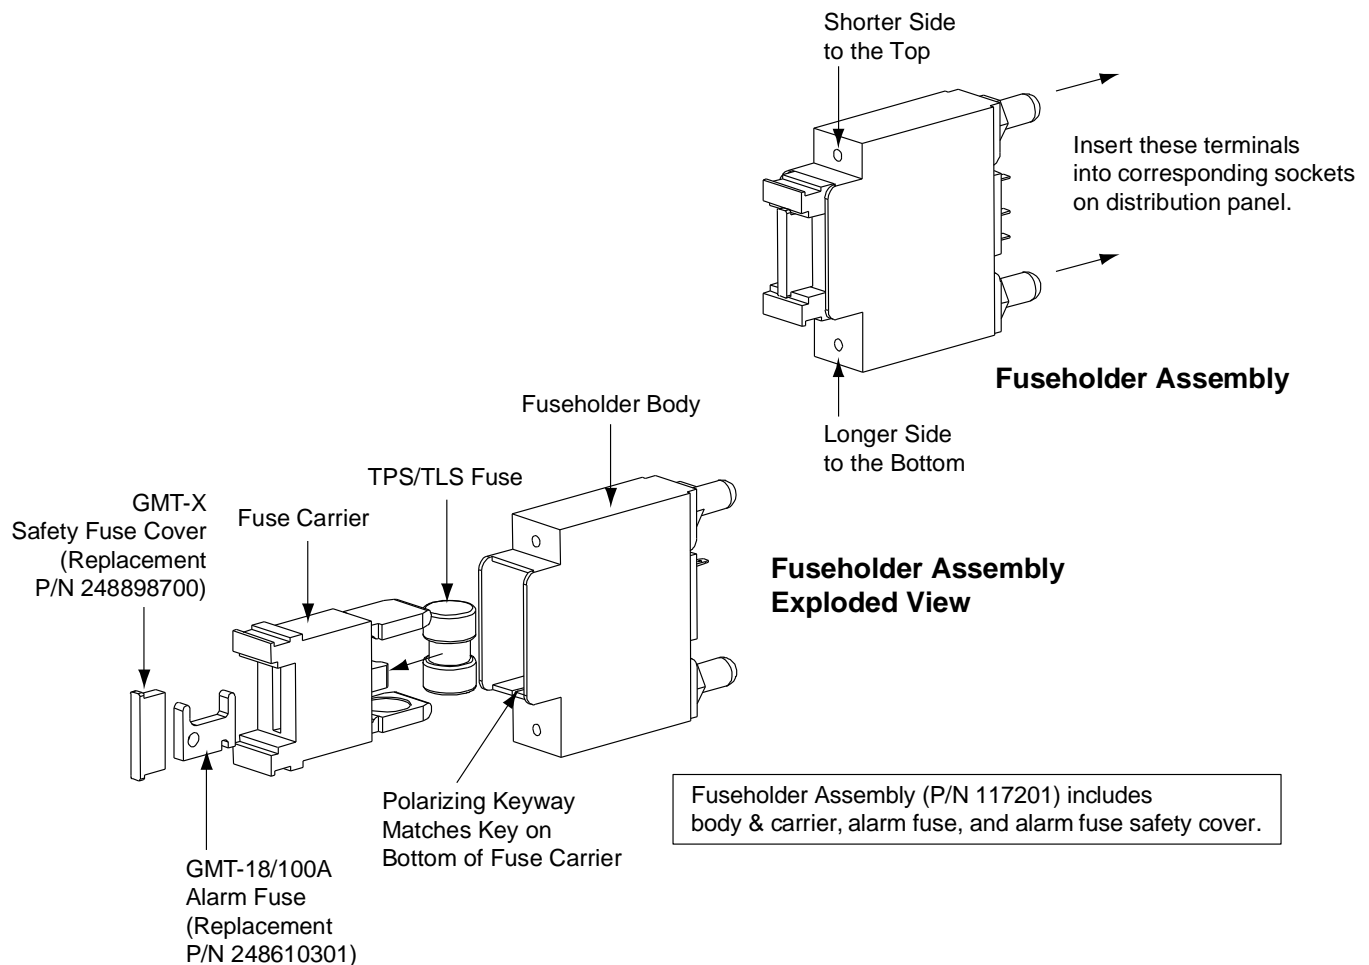

Figure 4-2
Note: Refer to Figure 4-2 as this procedure is performed.
- 4) Orient the fuseholder as shown in Figure 4-2. Insert the terminals on the rear of the fuseholder into their corresponding sockets on the distribution panel. Ensure the alarm contact on the back of the fuseholder makes contact with the alarm terminal on the spring strip. Push fuseholder in firmly until fully seated in the distribution panel.